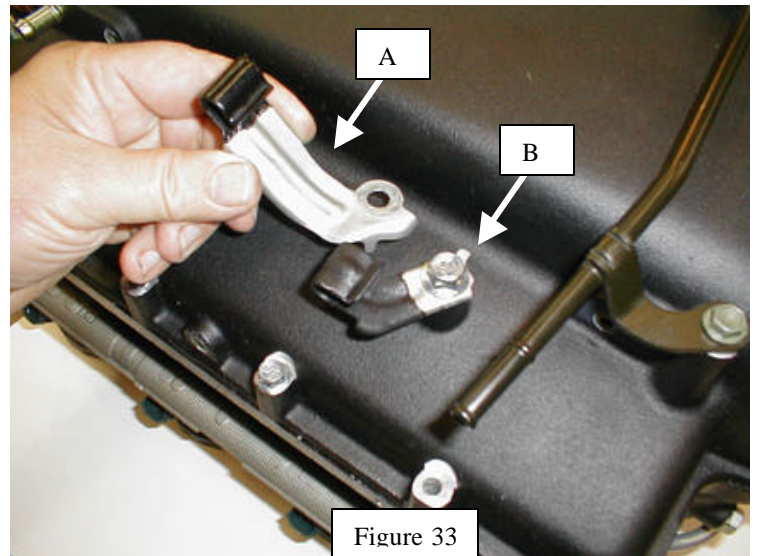

Figure 33
60. On Tundra and Sequoia, install the OE throttle cable support bracket (Arrow A, Figure 33) onto the TRD supercharger manifold using the OE 8mm bolt. On Land Cruiser/LX470, the OE bracket has a 6mm hole. Drill the bracket hole to 8mm or 21/64.
61. Install the Land Cruiser/LX470 throttle cable support bracket using the supplied 25.4mm (1.0 inch) spacer, and supplied 8mm bolt (Arrow B, Figure 33).